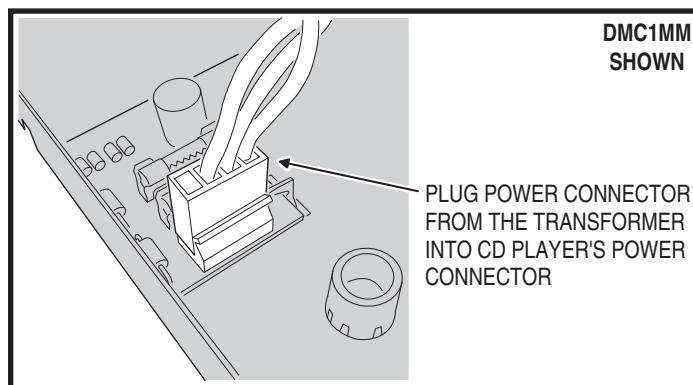

Figure 26. dmc1MM iPlay® Dock MP3 & CD Player Power Connection
11. Plug the connector from the TE2D power transformer in the wall housing to the CD Player's POWER connector (see Figure 26 or 27).